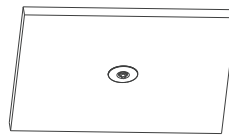

Figure 3-3
3. Pinch the 2 springs, insert them into the ceiling hole, and release the springs (refer to Figure 3-3).